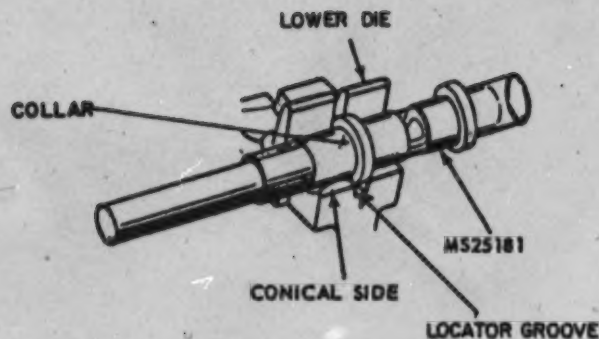

Figure 6.
- e. Select a splice connection. Put it in the crimping tool, so that the collar of the splice connection is in the locator groove (figure 6). Be sure that the side of the splice to be crimped is on the conical die side of the locator groove in the upper nest.